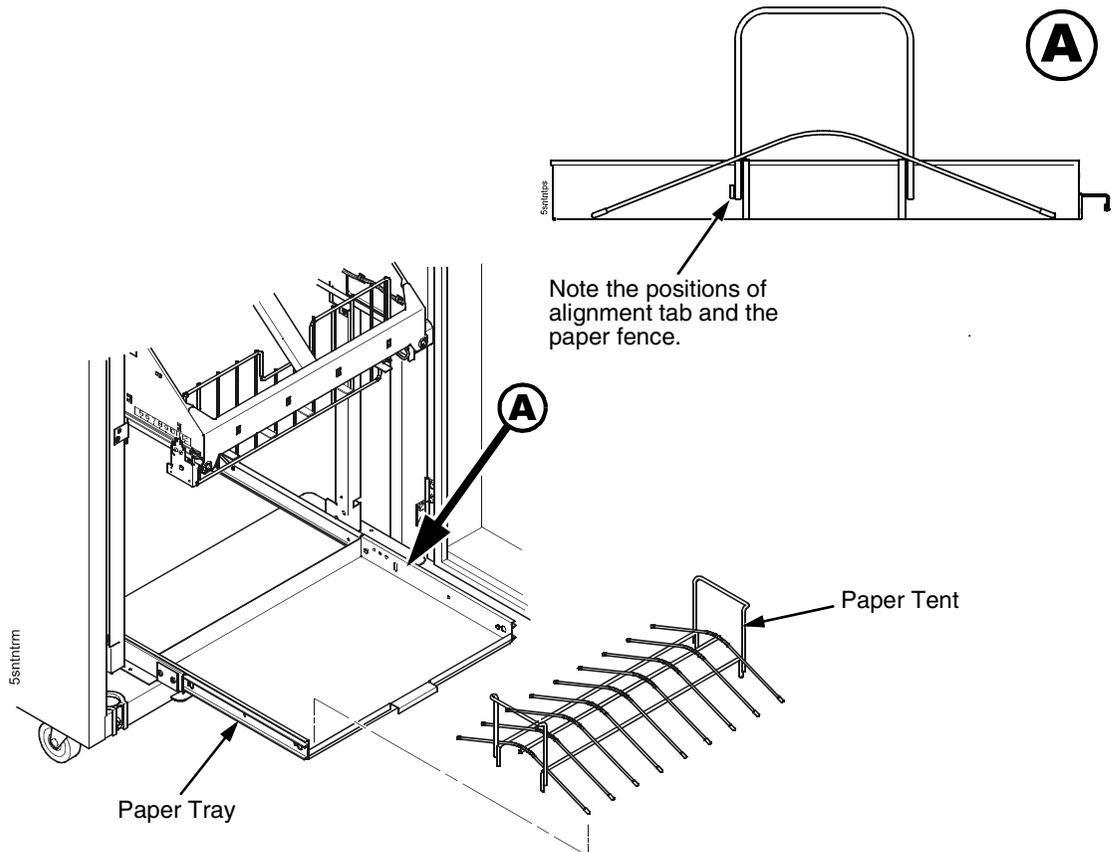

Figure 94. Paper Tent
35. Pull out the paper tray and install the paper tent. (Figure 94.)